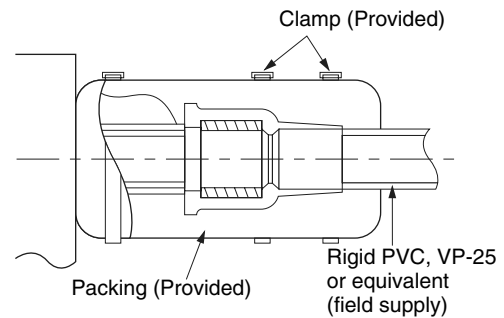

Fig. 3-76
- (2) After connecting the drain piping securely, wrap the supplied packing and drain pipe insulator around the pipe, then secure it with the supplied vinyl clamps. (Fig. 3-76)